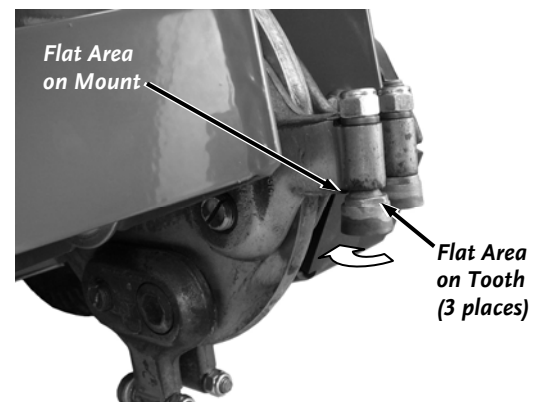

Figure 23
4. Rotate the Tooth until the next flat area on the side of the Tooth is aligned with the flat area of the Mount (**Figure 23**).